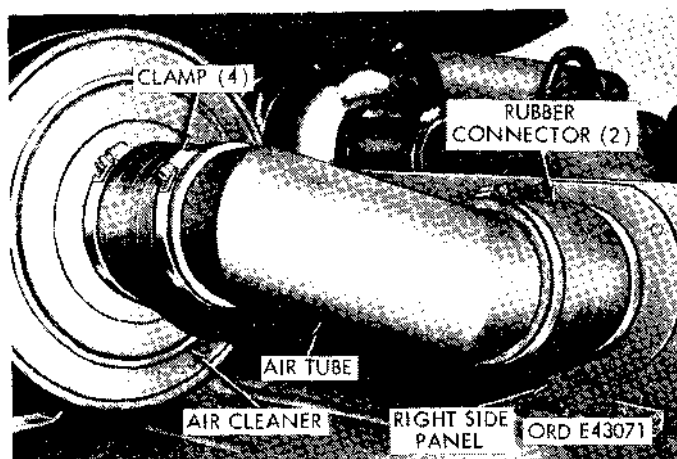
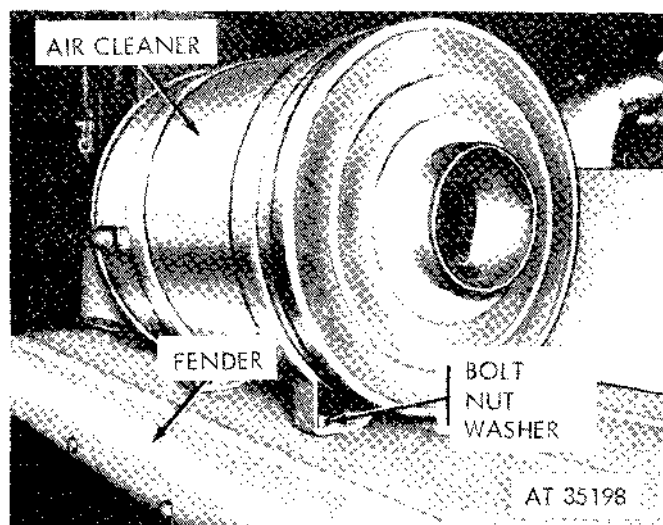

Figure 2-75. Removing rubber connectors and air cleaner tube.
Figure 2-76. Removing air cleaner.
(1) Loosen the two clamps securing the two rubber connectors and the air tube assembly (fig. 2-75). Remove the connectors and tube assembly from the vehicle. If necessary, loosen the two clamps to separate the air tube from the connectors.
(2) Remove the six nuts, bolts, and washers securing the air cleaner. Lift the air cleaner off of the fender (fig. 2-76).
(3) Position the air cleaner on the fender (fig. 2-76), and secure the cleaner unit to the fender with four bolts, lockwashers, and nuts.
(4) Install two rubber connectors onto the air tube, and secure the connectors to the tube by tightening the two clamps.
(5) Position the two connectors and the air tube assembly, and secure them with clamps (fig. 2-75).